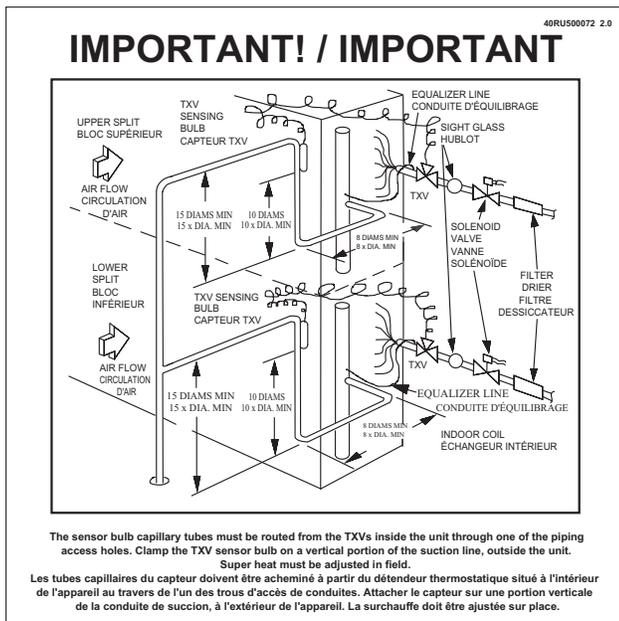

Fig. 22 — TXV Bulb Location Label
- Is TXV bulb located on suction tube per Fig. 22?